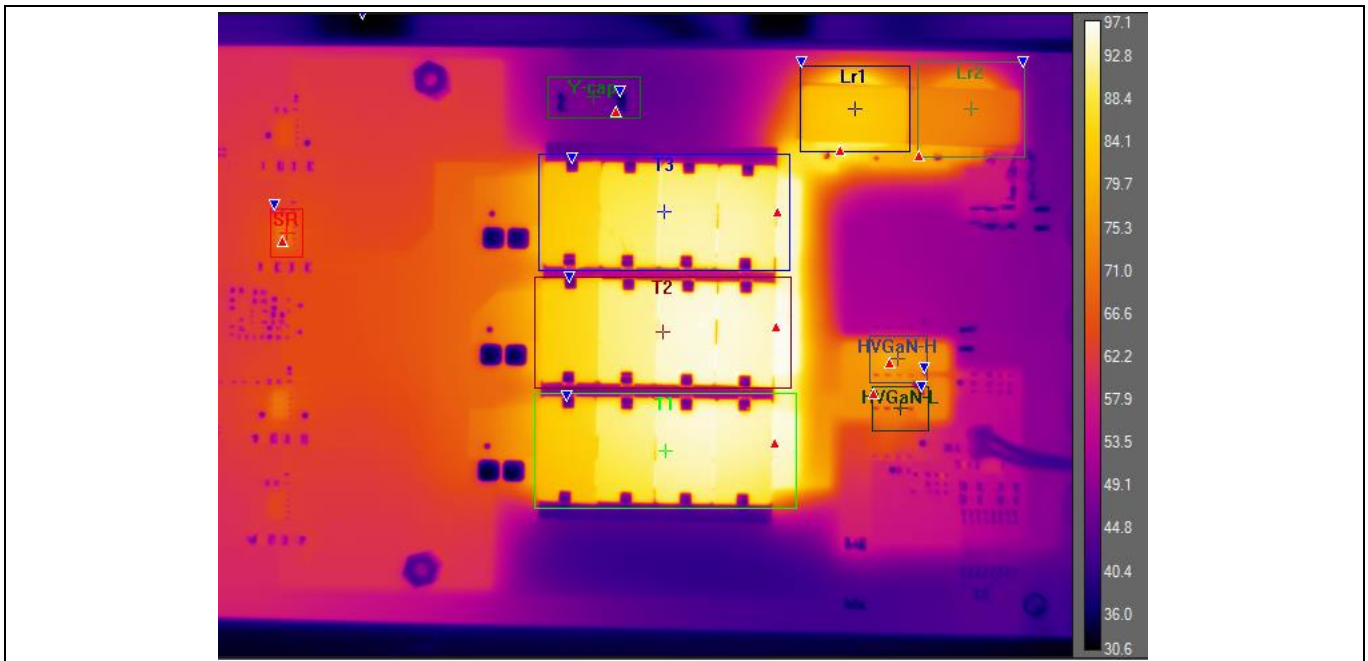

Figure 28 Thermal image of the half-bridge LLC board at full power with 375 V DC input voltage
- Figure 28: Thermal image with 375 V DC input voltage